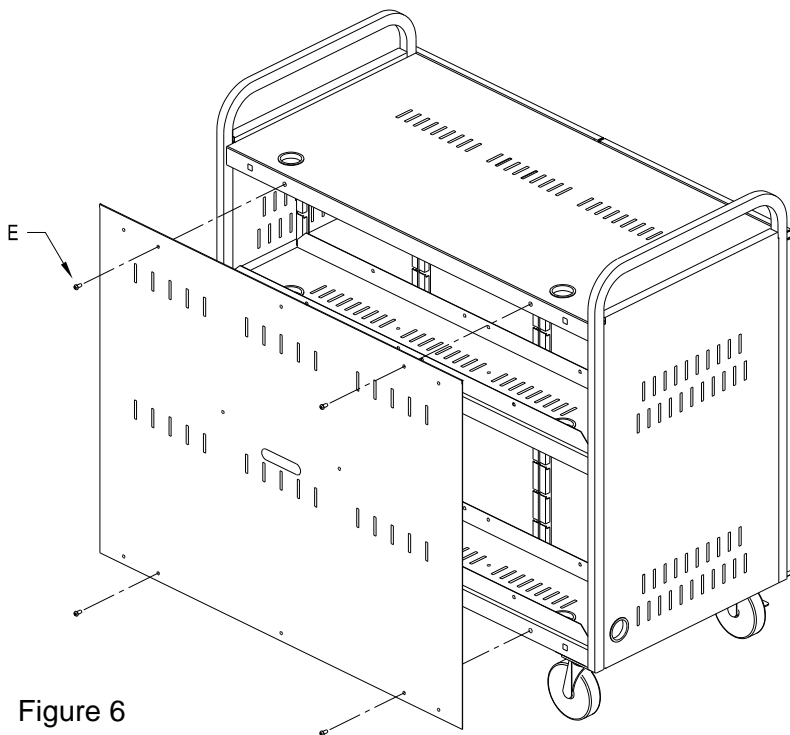

Figure 6
- For theft deterrence, use the Screws shown in addition to the 1/4 turn fasteners. See Figure 6.